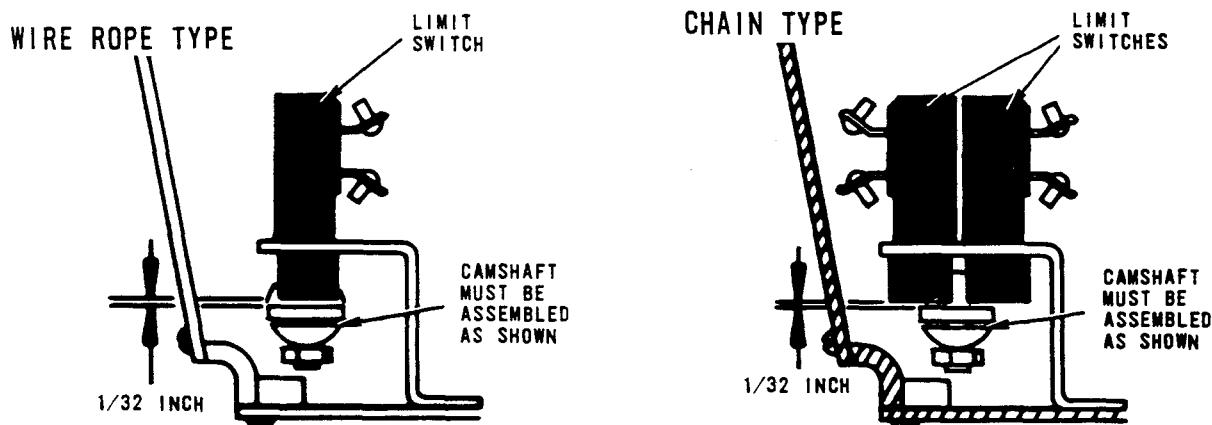

FIGURE 5.
- (f) The wire rope units are equipped with a plugging upper limit switch and an anti-rewind lower limit switch. To check the upper plugging limit switch lower the bottom block to a position about eight (8) feet below the hoist. Depress the "UP" button and while the bottom block is raising, lift the limit switch paddle with your hand. When the paddle is lifted from $\frac{3}{16}$ inch to $\frac{1}{4}$ inch the hoist will cutoff. Lift the paddle further and the unit will instantaneously lower the bottom block. If for some reason this switch does not operate properly, the adjusting screw on the camshaft may be adjusted as shown in Figure 5 below. To check the lower anti-rewind switch, position the load hook approximately four (4) feet below the hoist. Depress the "DOWN" button and while the load hook lowers depress the limit switch lever. The motor should stop. This is a snap action switch and no adjustment should be needed.
- (g) All link chain units are equipped with both upper and lower plugging type switches. To check the upper limit, lower the load hook to a position approximately six (6) feet from the bottom of the hoist. Depress the "UP" button and while the hook is raising lift the limit